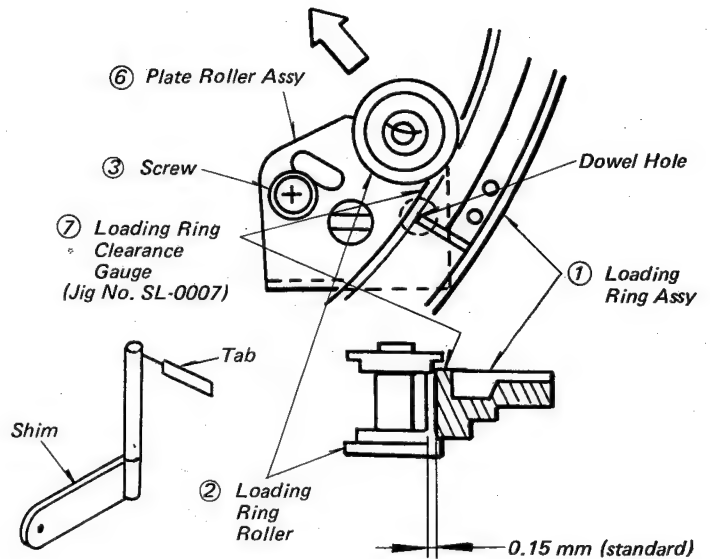
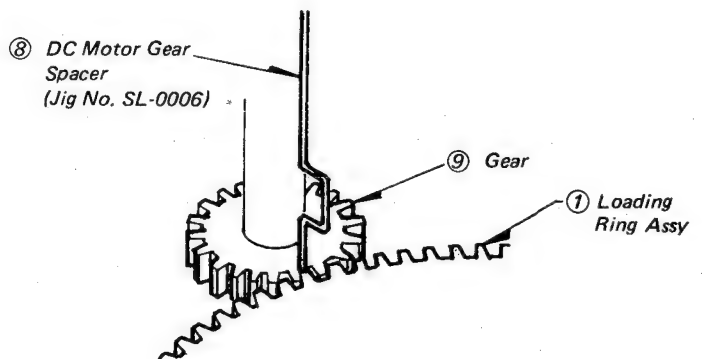
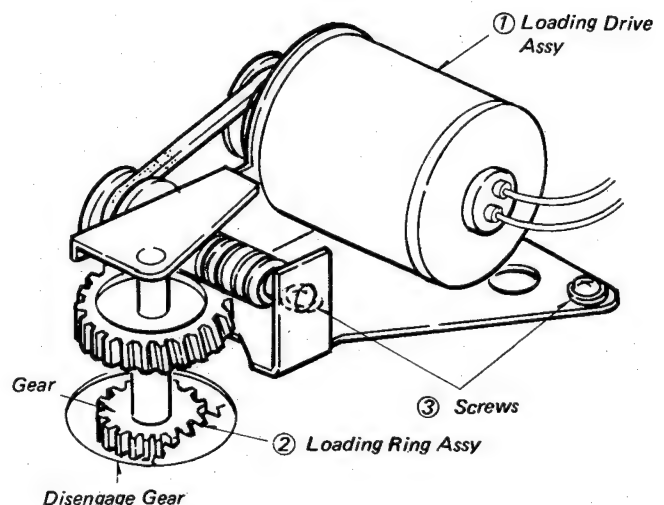
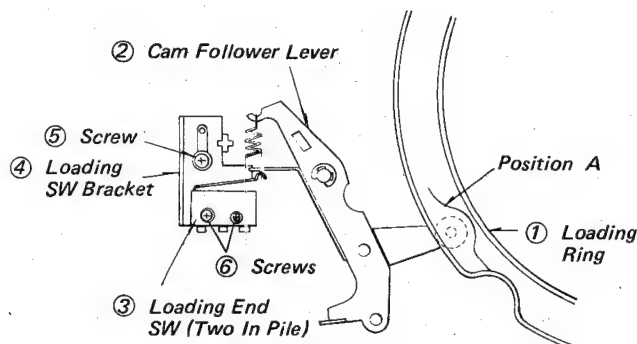

Fig. 5-57 Plate Roller Assembly.
Fig. 5-58 Gear Engagement.
Fig. 5-59 Loading Drive Assembly.
Fig. 5-62 Loading End Switch Positioning and Replacement.
3. Also, make certain that the clearance between the loading ring and loading ring roller is 0.15 mm (standard). In the standard clearance, the loading disk clearance gauge should be tightly inserted into the clearance when the loading ring is in the unloading state (see Fig. 5-57).
1. If the clearance between the loading ring and loading disk roller is out of the tolerance (0.15 mm), proceed as follows: (also, see Fig. 5-57).
- a. Loosen the screw ③ holding the plate roller assembly ⑥.
- b. Insert the loading ring clearance gauge ⑦ into the gap between the loading ring ① and loading ring roller ②.
- d. Remove the loading ring clearance gauge ⑦.
- a. Loosen the two screws ③ holding the loading drive assembly ① for temporarily securing (see Fig. 5-59).
- b. Insert the DC motor gear spacer ⑧ into the gap between the gear ⑨ and gear on the loading ring assembly ① (see Fig. 5-58).
- c. Adjust the DC motor gear spacer ⑧ so that the gap between the gear ⑨ and gear on the loading ring assembly ① is zero (see Fig. 5-58).
- e. Remove the DC Motor Gear Spacer ⑧.
5-2-34 Replacing the Loading Drive Assembly (see Figs. 5-58, -59)
3. Remove the two screws holding the loading drive assembly ① (see Fig. 5-59).
4. Unsolder the wires on the loading drive assembly ① using a soldering iron.
7. Insert the DC motor gear spacer ⑧ into the gap between the gear ⑨ and gear on the loading ring assembly ② (see Fig. 5-58).
8. Adjust the DC motor gear spacer ⑧ so that the gap is zero.
10. Remove the DC motor gear spacer ⑧.
3. Loosen the two screws holding the loading drive assembly ①. (see Fig. 5-58)
4. Separate the gear from the loading ring assembly ② (see Fig. 5-59).
6. Loosen the screw holding the Plate Roller assembly (see Fig. 5-57).
14. Lightly slide the plate roller assembly ⑥ in opposite the direction of the arrow (see Fig. 5-57) and temporarily tighten the screw.
15. Insert the loading ring clearance gauge ⑦ of 0.15 mm thick into the clearance between the loading ring assembly ① and plate roller assembly ⑥, press this in the arrow (↖) direction, and firmly tighten the screw (see Fig. 5-57).
16. Remove the loading ring clearance gauge ⑦.
18. Insert the D.C motor gear spacer ⑧ into the gap between the gear on the loading ring assembly ② (see Fig. 5-58).
19. Adjust the D.C motor gear spacer ⑧ so that the gap may be zero.
21. Turn the loading ring ② to the end of loading and check to insure that the loading ring ② is locked by the roller on the cam follower lever ⑤ and the two loading end switches ⑧ are actuated to turn on (see Fig. 5-62).
5-2-36 Positioning and Replacing the Loading End Switch (see Fig. 5-62)